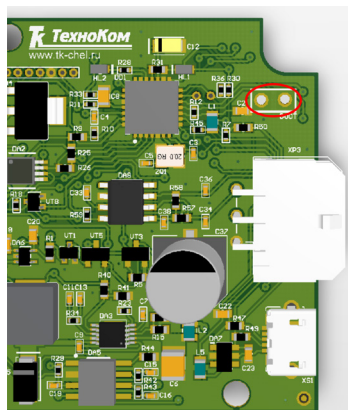

Fig.9. BOOT pins on the PCB.
4. Close the BOOT pins (see fig.9) and connect the TK-OB2LOG to a PC using USB AM – USB microB 5pin data-cable.